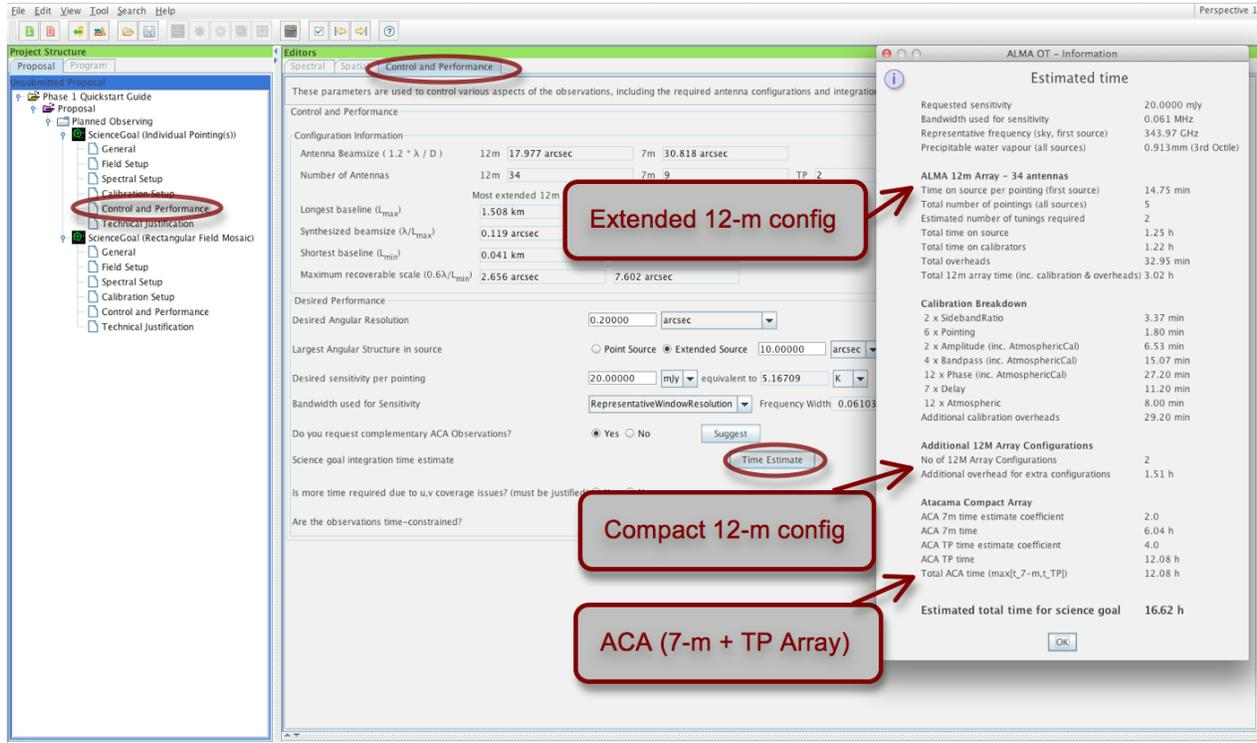

Figure 10: Control and Performance editor pane and the Time Estimate box.
The final technical specifications of your Science Goal are entered in the *Control and Performance* panel (see Fig. 10). The *Configuration Information* section displays information on the array configurations planned for Cycle 2, and uses the representative frequency defined in the spectral setup to calculate the *Synthesized beamsize* and the *Maximum recoverable scale* of the observations.
**Do you request complementary ACA observations:** based on your previous input, the OT will make a recommendation on whether you need additional ACA observations if you press the *Suggest* button. The ACA comprises the 7-m Array as well as the Total Power (TP) Array for observing modes where the TP Array is offered. You can choose to override the recommendation of the OT, but should carefully justify your choice in the technical justification. Note that the ACA cannot be used with the most extended 12-m configurations alone as this would result in a gap in the baseline coverage. If both high spatial resolution and a large spatial scale are needed, the OT will suggest two 12-m configurations as well as the ACA (the number of 12-m configurations can be seen in the *Time Estimate* pop-up window as well as on the summary sheets see Step 10).
**Science goal integration time estimate:** The *Time Estimate* button will estimate the total time required to achieve the desired sensitivity goal on the 12-m antennas, including calibrations, multiple pointings, and overheads (see Fig. 10). In the event that two 12-m configurations are needed to provide sufficient baseline coverage, the time breakdown will be calculated for the more extended of the two, while the time required for the more compact configuration will be calculated from the former using a fixed multiplicative factor. Similarly, the 7-m Array and TP Array observations are estimated to require a factor of 2 and 4 times the most extended 12-m Array observations respectively. Unless specified otherwise (see below), it is the total time reported here that will be used by the observatory as an estimate of how long your project will take to complete. Note that, for Cycle 2, proposals requiring more than 100 hours cannot be submitted.